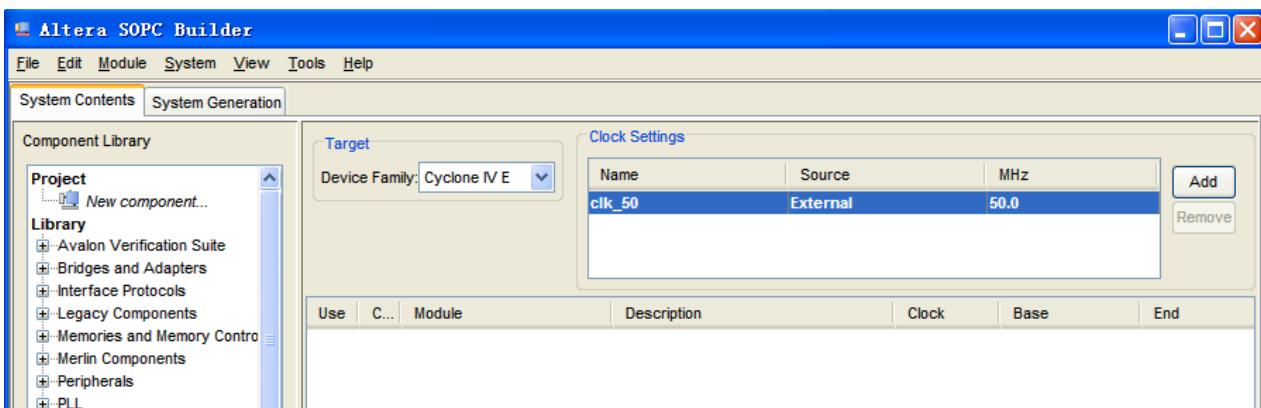

Figure 7-13 Rename Clock Name
7. Click the **Name** of the **Clock Settings** table, rename `clk_0` to `clk_50`. Press Enter to complete the update. See Figure 7-13.